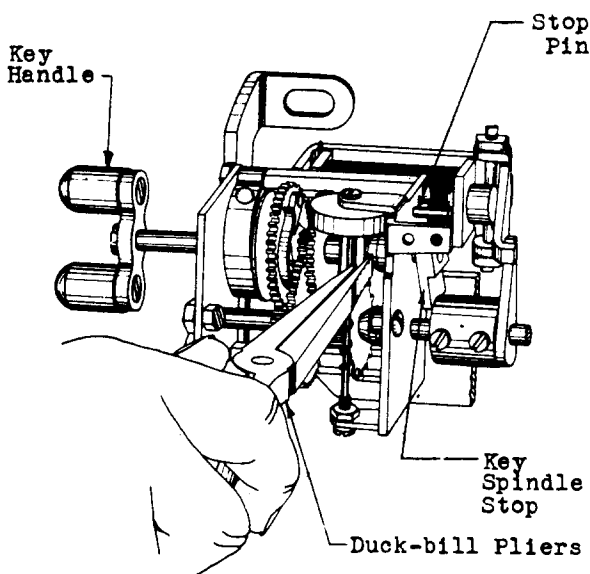

Fig. 16 – Method of Adjusting Governor Springs with Duck-bill Pliers
(7) To obtain uniform speed for three revolutions, the key spindle stop must be so placed that when the spring is fully wound, the stop is not more than 1/16" from the stop pin. It should not be necessary to make this adjustment, however, since the spindle of the key is spotted for the proper position when the key is adjusted in the shop.
(8) If it is found necessary to change the speed of the switch, proceed as follows:
(9) To increase the speed, adjust the two governor springs approximately equal amounts toward the governor shaft with the KS-6015 duck-bill pliers applied as shown in Fig. 16.
(10) To decrease the speed apply the duck-bill pliers to the wings in the manner outlined in paragraph (9) above and adjust the two wings of the governor approximately equal amounts away from the governor shaft.